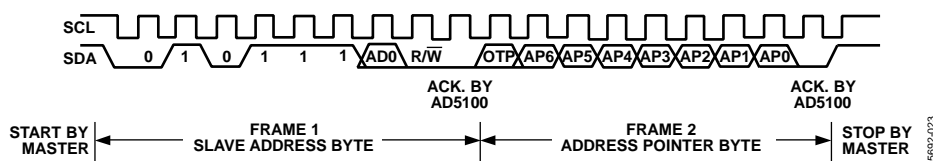
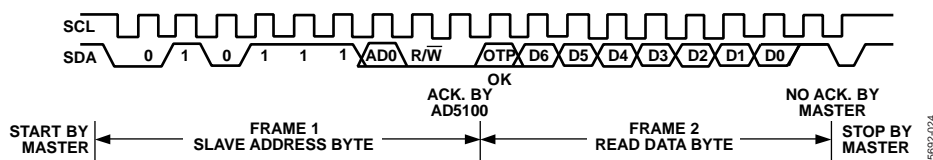

Figure 22. Dummy Write to Set Proper Address Pointer
Figure 23. Read Data from the Address Pointer Register
- If the AD5100 address pointer register value is unknown or not at the desired value, it is first necessary to set it to the correct value before data can be read from the desired data register. This is done by performing a write to the AD5100, but only a value containing the register address is sent because data is not to be written to the register. This is shown in Figure 22. A read operation is then performed consisting of the serial bus address, R/W bit set to 1, followed by the data byte from the data register. This is shown in Figure 23.